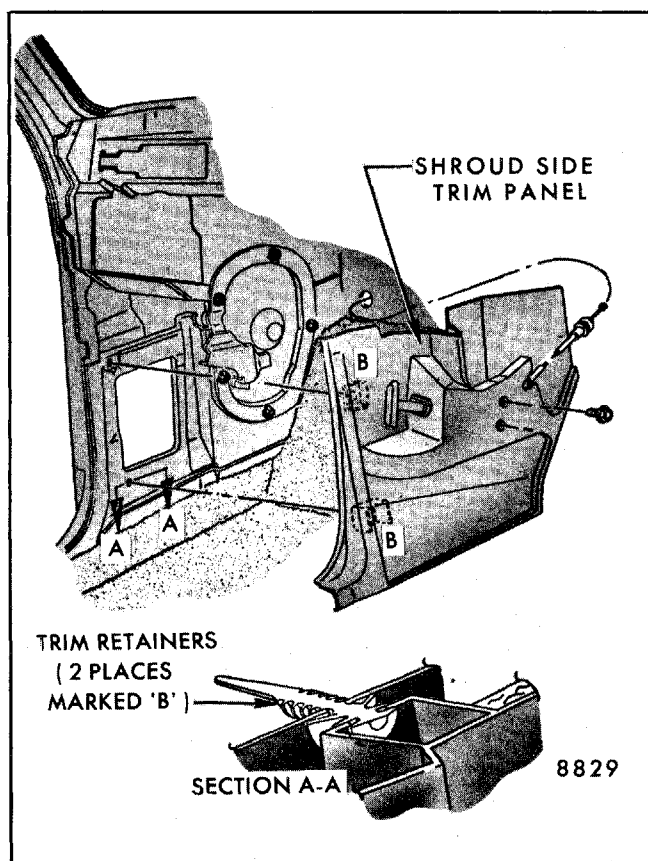

Fig. 4-14 - Shroud Side Trim Panel (Left Side)
4. Remove two screws securing trim panel to side shroud; then using trim removal tool J-24595, BT 7323 or equivalent, disengage two trim fasteners from side shroud panel (Fig. 4-14).